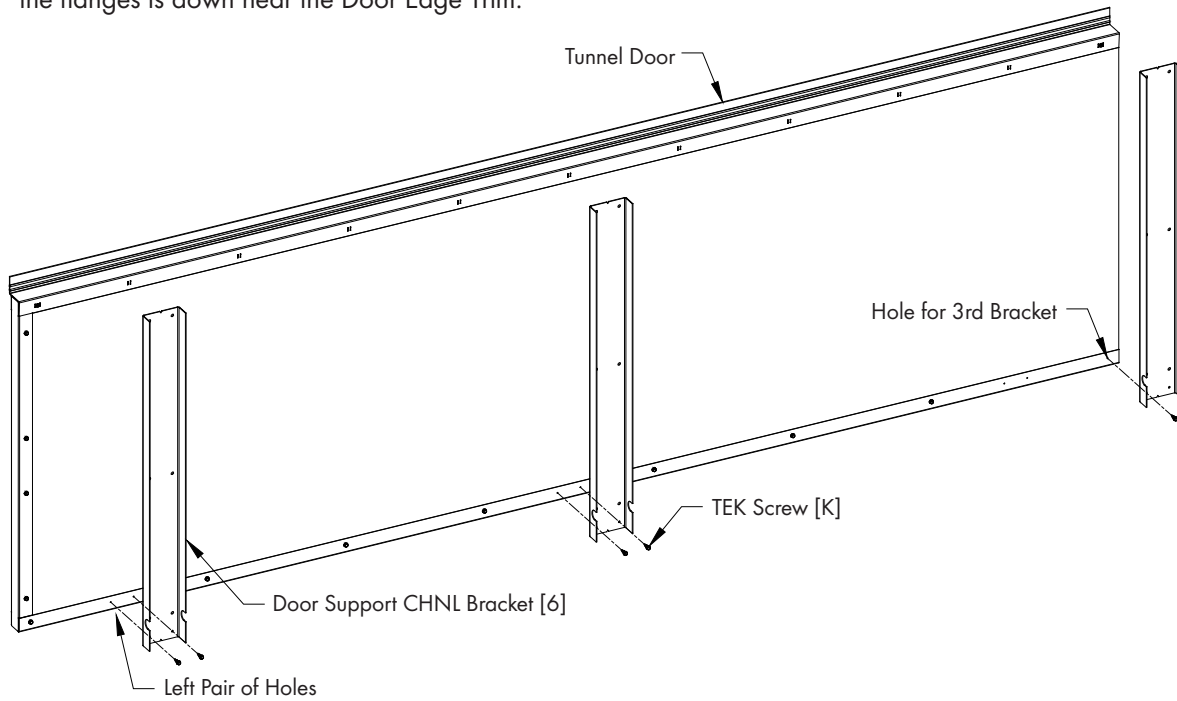

Figure 6
For the Left Door, attach a Door Support CHNL Bracket [6] to the left pair and center pair of holes in the Door Edge Trim using (4) TEK Screws [K] per Bracket. See Figure 6. Then attach a 3rd Door Support CHNL Bracket [6] at the right end of the Tunnel Door, so that half of the Bracket is on the Door and the other half of the Bracket hangs off the end. See Figure 6. Make sure the End of the Bracket with the Notches in the flanges is down near the Door Edge Trim.